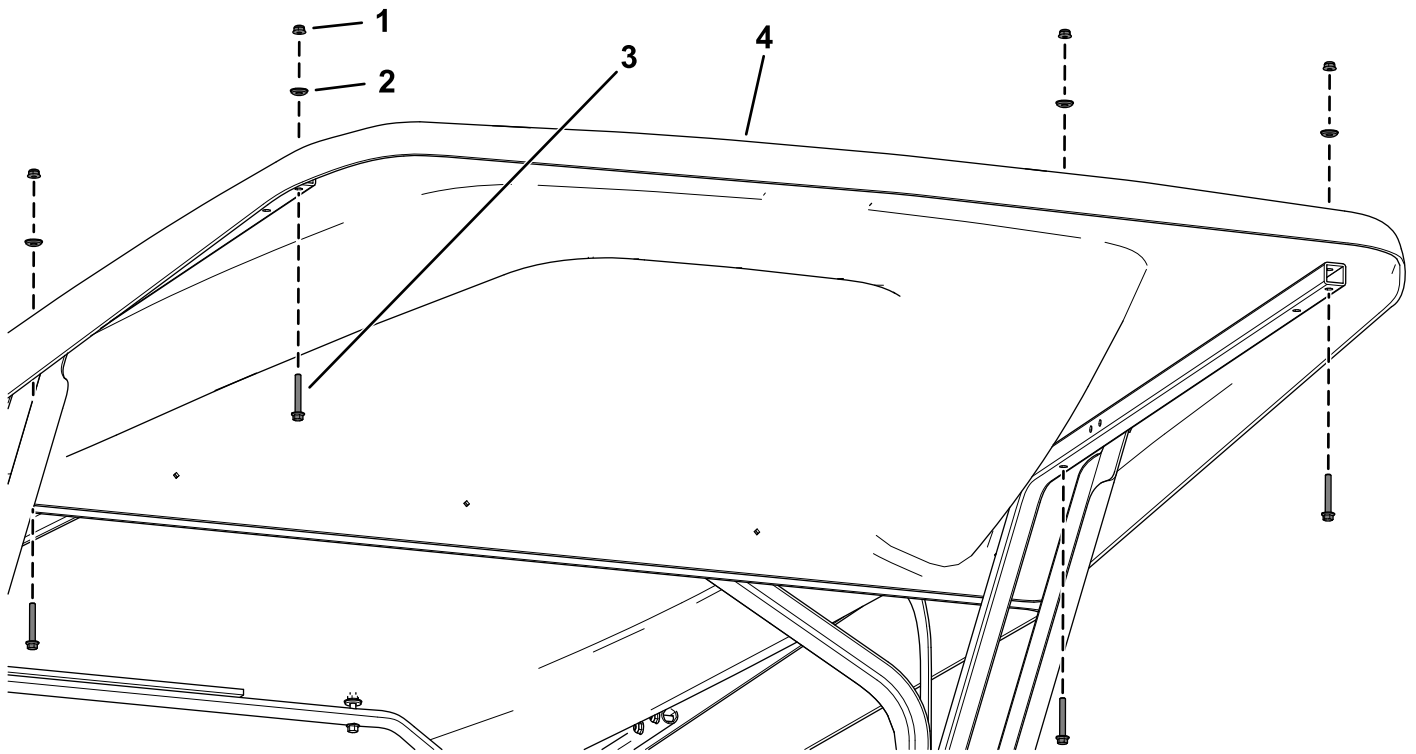

Figure 5
2. Secure the canopy extension using 4 flange-head bolts (1/4 x 1-3/4 inches), 4 sealing washers, and 4 locknuts (1/4 inch) as shown in Figure 5.